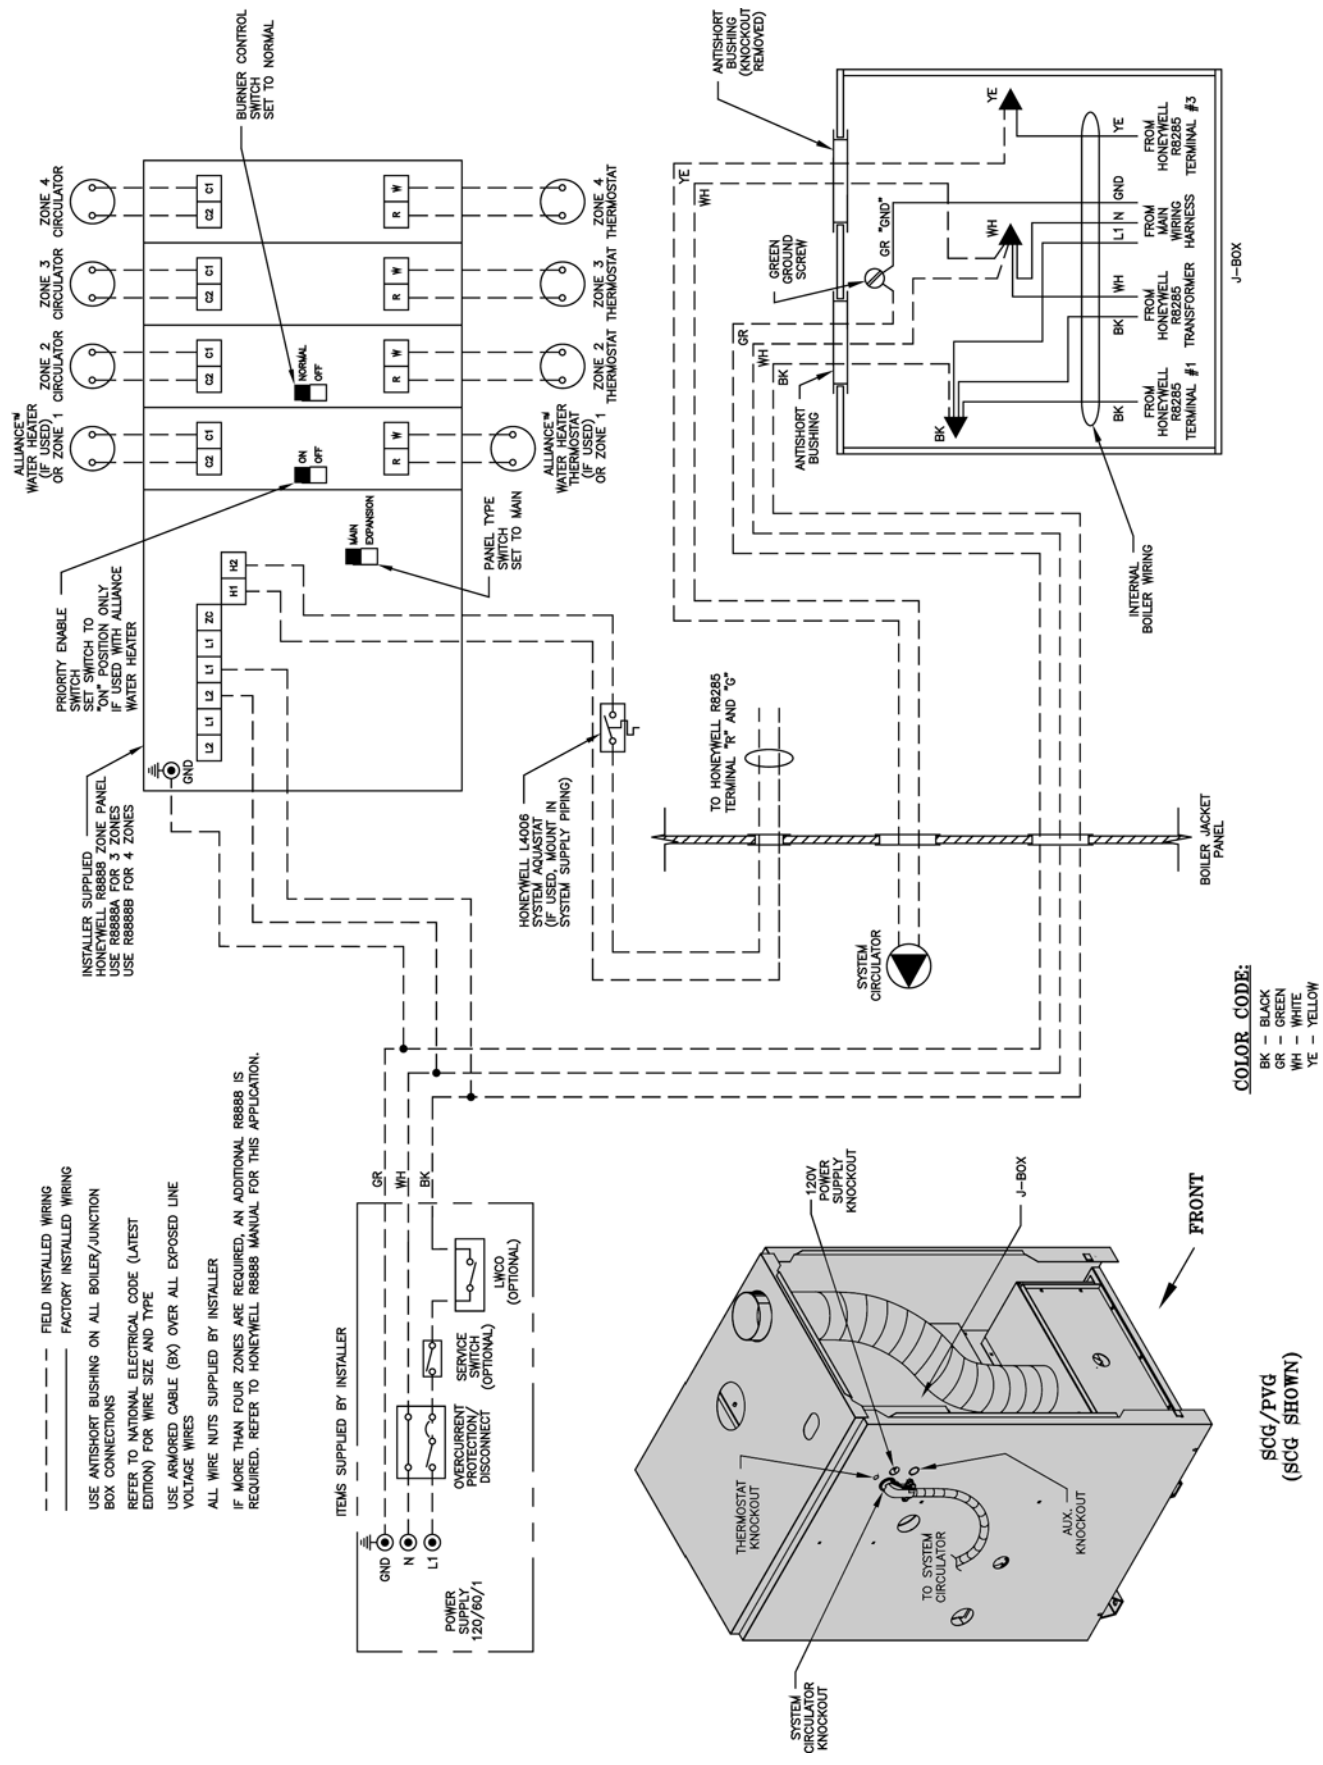

Figure 32: Circulator Zoned System Wiring Schematic
7. Conventional Circulator Zoned System – Refer to Figure 32 of this manual for the electrical diagram for this type of system.